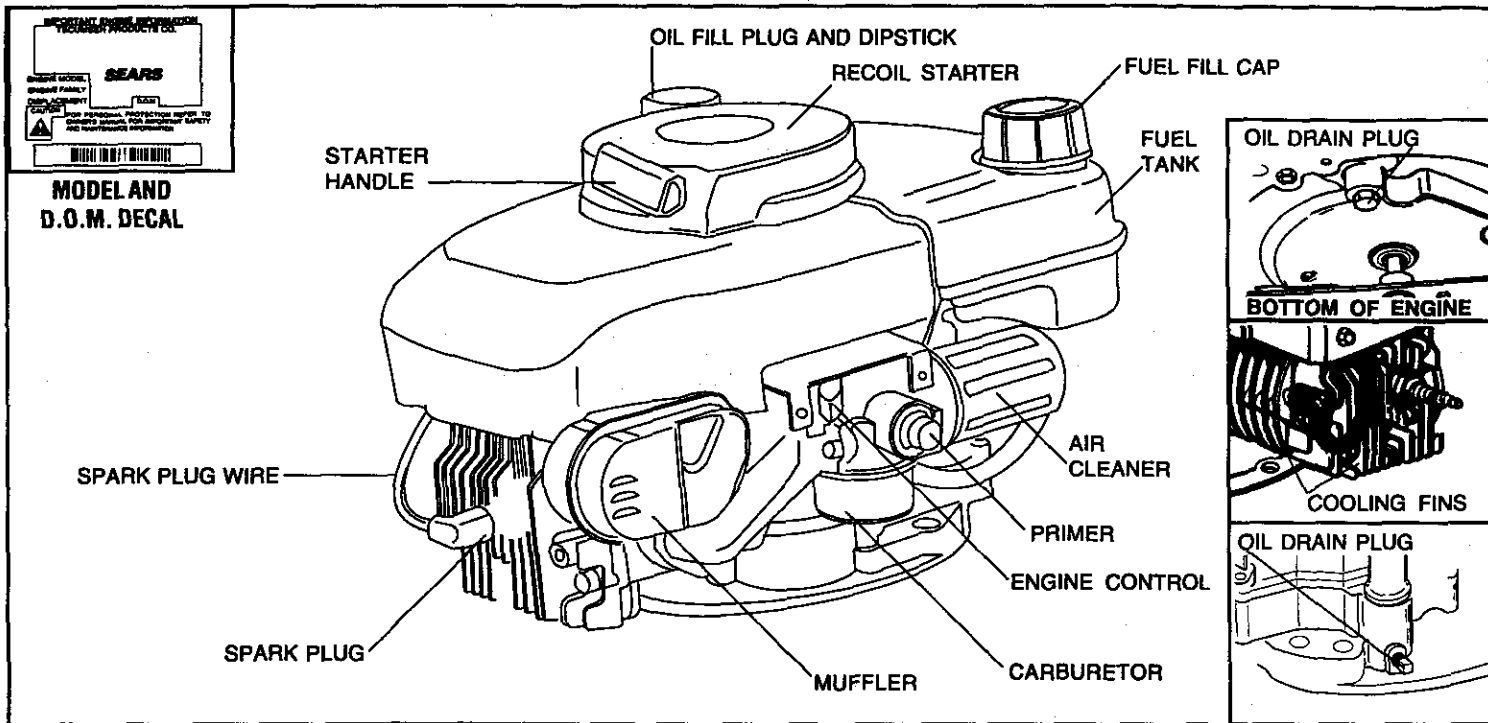

Figure 1
- Clean area around oil fill plug (see Figure 1).
- ④ **CHECK THE FOLLOWING:**
- B. Be sure spark plug wire is attached to spark plug (see Figure 1).**
- ① Move ENGINE CONTROL (see Figure 1) to HI Position.
② START ENGINE
ENGINE SPEED: Engine speed is controlled by the ENGINE CONTROL see Figure 1).
- ① Move ENGINE CONTROL (see Figure 1) to STOP.
② AFTER ENGINE IS STOPPED:
C. Remove oil drain plug and oil fill plug to drain oil (see Figure 1).